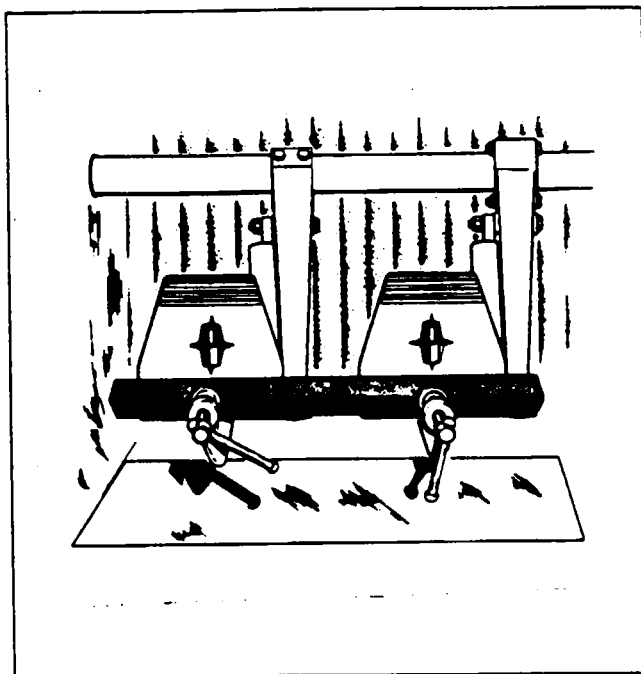

Figure 7-3. Clamping Rudder Pedals in Neutral Position
- g. Clamp the rudder pedals in neutral position. (Refer to Figure 7-3).